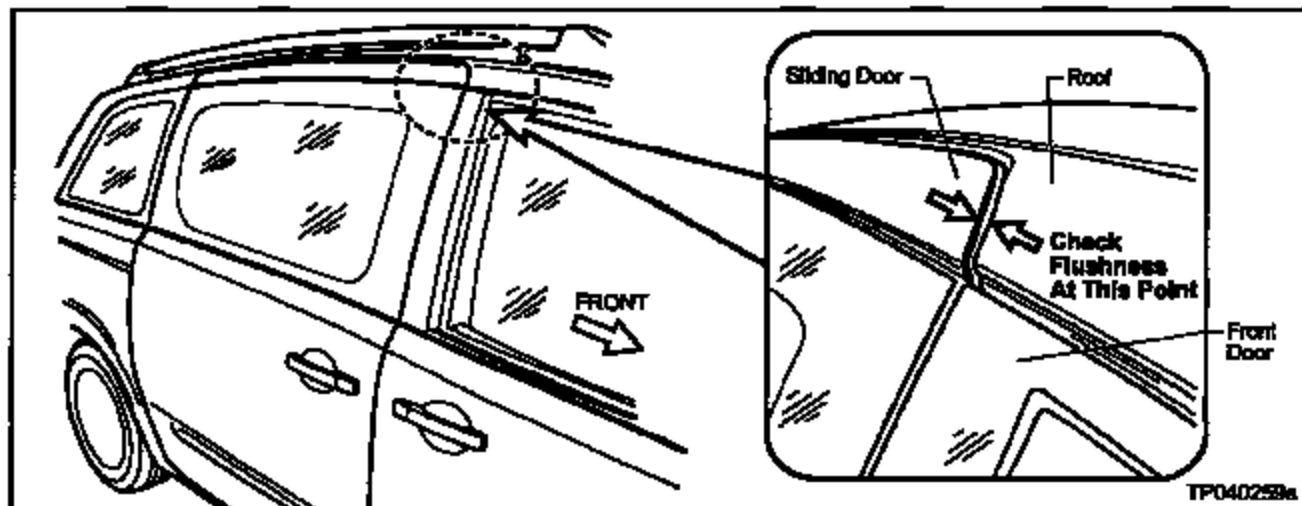

Figure J28
38. Check the exterior fit of the Upper Sliding Door to the Roof and Front Door (see Figure J28).